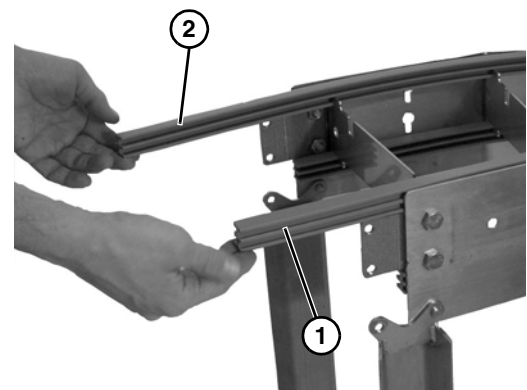

Figure 44
5. Slide off inner (**Figure 44, item 1**) and outer (**Figure 44, item 2**) belt guides.